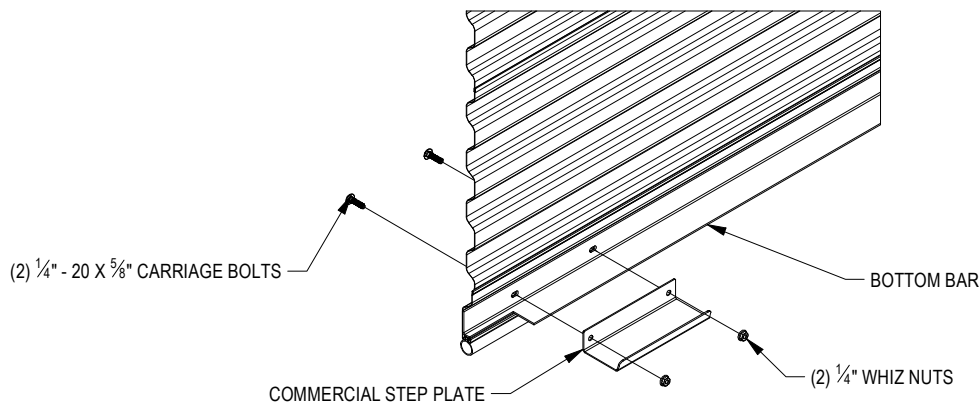

FIGURE 17:
- For motor operated door, install commercial step plates only. **See Figure 17.**